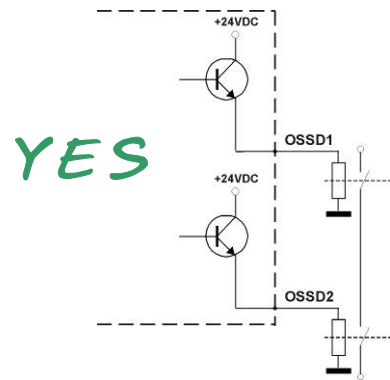

Fig. 16
- The OSSD1 and OSSD2 safety contacts cannot be connected in series or in parallel, but can be used separately (Fig.16). If one of these configurations is erroneously used, the device enters into the output failure condition (see section 7 "Diagnostic functions").